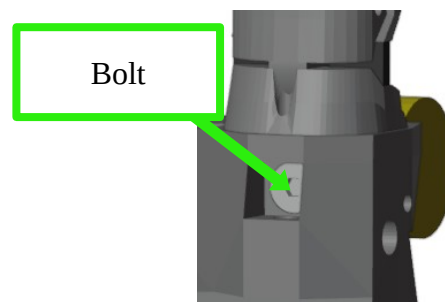

Figure 5.15: Finger bolt insertion
4. Insert the bolt into the hole on the rear of the skeleton and tighten it (figure 5.15)